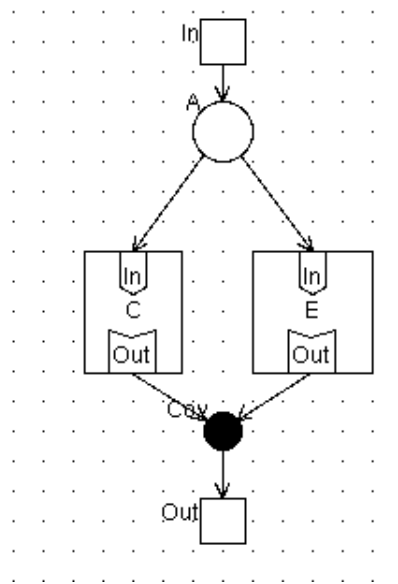

Figure 35: The *Erlang* macro
Step 36: Save the macro under the name “Erlang”. It is important that this name is the same as the name that has been specified in the forward declaration dialog. The completed macro definition should look like figure 35.